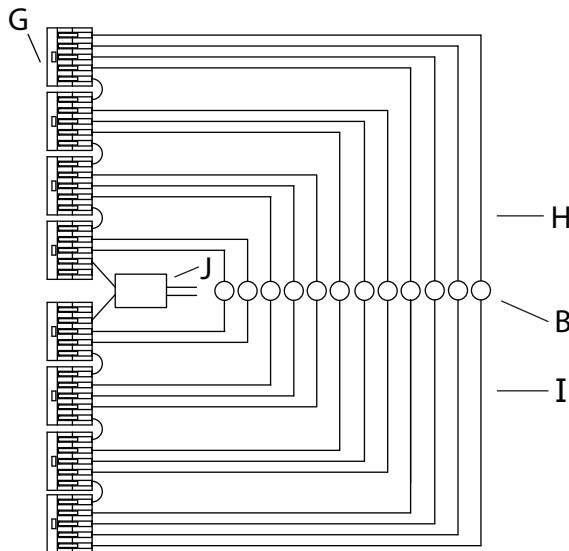
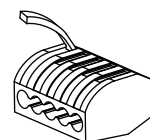

Fig. 3
Fig. 2
1. Shut off power to the outlet box (A).
2. Feed the power cords (B) through the bushings (C) on the canopy (D).
3. Determine the height at which the fixture is to be hung. Use the screwdriver (E) to loosen the set screw (F). Adjust the cord (B) to the desired length. Tighten the set screws to set.
4. Connect the fixture wires to the lever nuts (G) by pulling up on the lever for an empty slot (Fig. 2), inserting the wire, and pushing the lever back down to lock. The white inner conductor (H) and black outer conductor (I) on each cord (B) must be connected to separate lever nuts, as shown (Fig. 3).
5. Reserve transformer (J), extra cords (B), and lever nuts (G) in canopy (D).